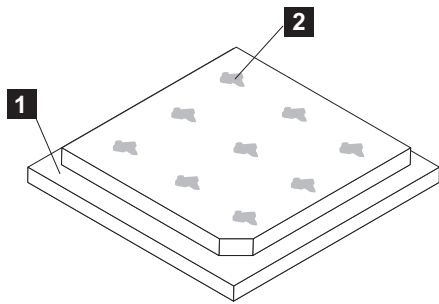

Figure 306. Applying thermal grease to the SAN Volume Controller 2145-DH8 microprocessor
- e. Use the thermal-grease syringe to place nine uniformly spaced dots of 0.02 mL each on the top of the microprocessor, as shown in Figure 306. The outermost dots must be within approximately 5 mm of the edge of the microprocessor to ensure uniform distribution of the grease.